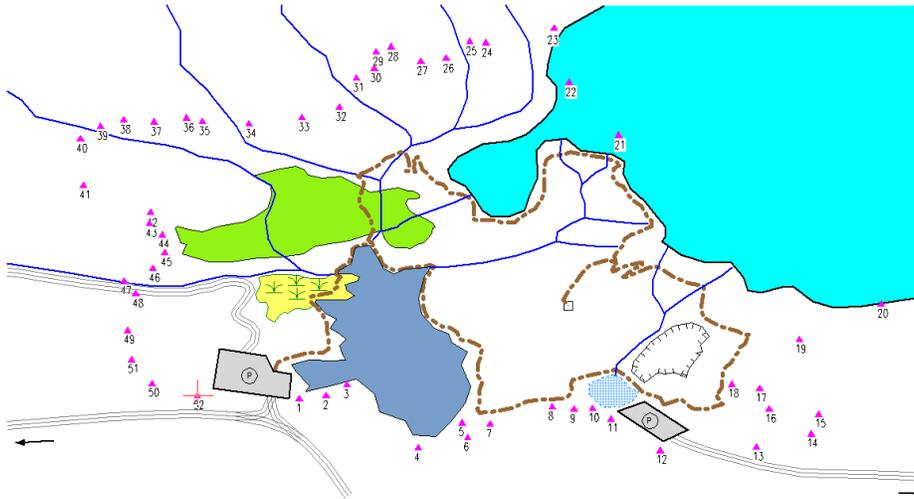

Figure 3-11: Triangle Features Highlighted in Magenta
4. If you scroll down on the sidebar you will see that many triangle features are selected and highlighted in magenta. These features have the name SURVEY. See Figure 3-11.